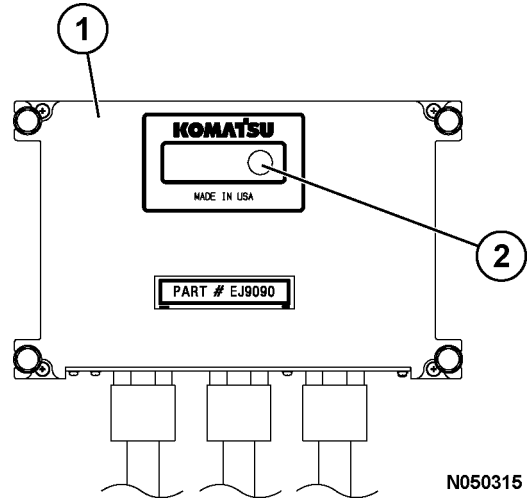

FIGURE 32-14. INTERFACE MODULE
Interface module (1, Figure 32-14) receives data from the sensors installed on the truck and sends this information to the KOMTRAX Plus controller. There is a small green LED light (2) on the face of the controller. When the key switch is ON, the light should be blinking. If the light is continuously illuminated, there is a problem in the controller.